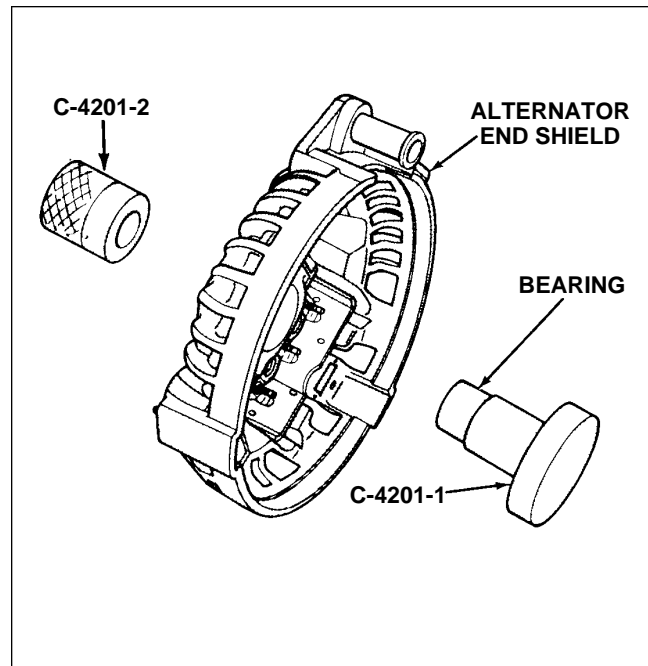

Figure 24-33. Installation of Chrysler Alternator Rectifier End Shield Bearing
- b. Position rectifier end shield bearing on base of tool C-4201. Place alternator end shield atop bearing and properly align. With top part of tool C-4201 on end shield, press into place until it bottoms against it. (Refer to Figure 24-33.)